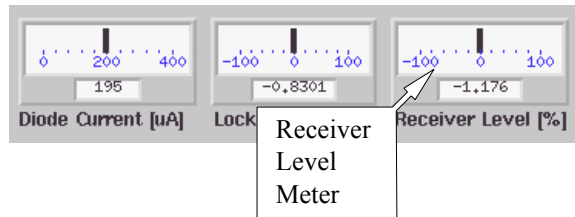

Figure 2-13 Monitoring the Receiver Gain.
19. **Adjust the Receiver Gain.** Monitor the Receiver Level while the scan is running. (See Figure 2-13.)